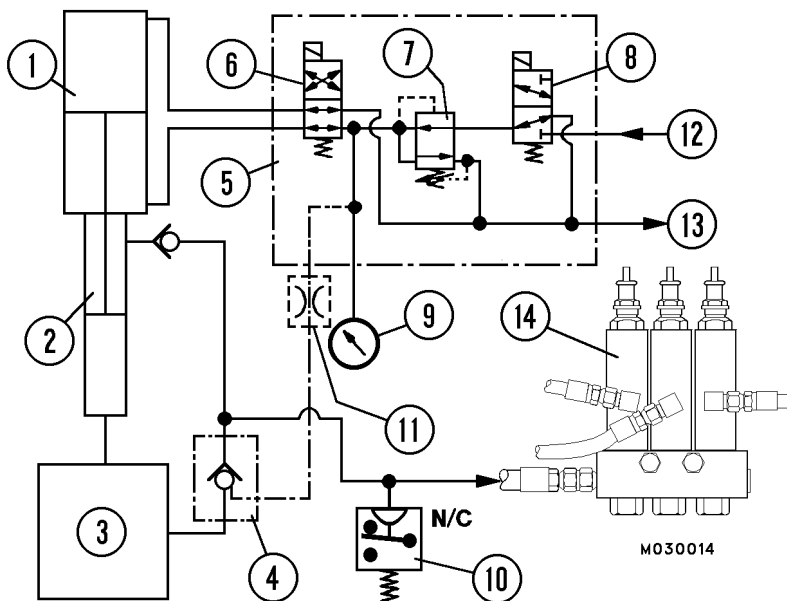

FIGURE 4-7. HYDRAULIC SCHEMATIC FOR AUTOMATIC LUBE
1. With engine stopped and steering accumulator pressure bled down, disconnect one wire from the N/C grease pressure switch (9, Figure 4-3, View A-A; or 10, Figure 4-7).
5. Adjust the pressure reducing valve (7, Figure 4-7) until the pressure gauge (installed at step 2) indicates 2,000 psi (13 790 kPa) grease pressure.
- a. The pressure on the oil pressure gauge drops to zero (0).
- b. The pressure on the grease pressure gauge drops to zero (0).